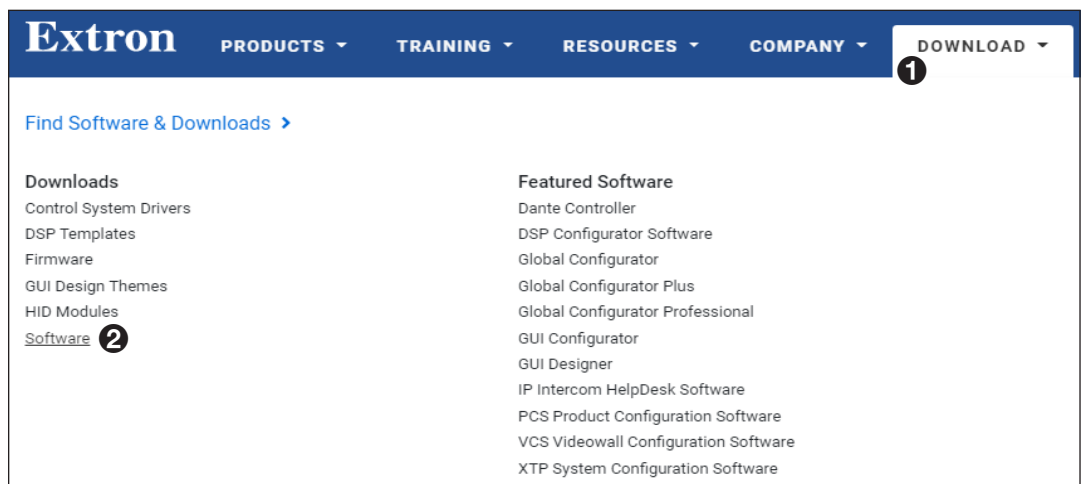

Figure 6. Software on the Extron Website
1. On the Extron website, go to the **Download** tab (see figure 6, **1**) and click **Software** (**2**). A list of available software opens.